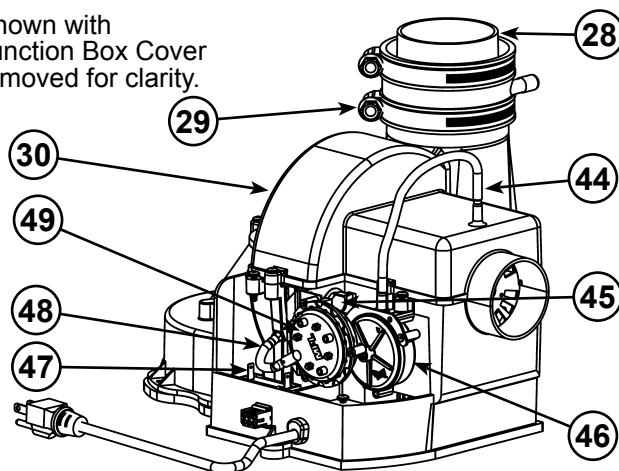

Figure 5
| 8 T&P Valve | 25 Baffle Assembly | 44 Air Tubing (Intake) (see Figure 5) |
| 9 * Discharge Pipe | 26 Hot-Water Outlet Nipple/Anode | 45 Blower High Limit Switch (see Figure 5) |
| 10 **Combo Heating System Return Inlet (Optional) | 27 *Inlet Water Shut-off Valve | 46 Intake Air Pressure Switch (NC) (inside box) (see Figure 5) |
| 11 Gas Control Valve/Thermostat (Honeywell) | 28 ***Rubber Coupling (see Figure 5) | 47 Capacitor (see Figure 5) |
| 12 Gas Valve Electronic Control Module And Cover (Honeywell) | 29 Gear Clamp (see Figure 5) | 48 Air Tubing (Exhaust) (see Figure 5) |
| 13 Drain Valve | 30 ***Blower with Power Cord (see Figure 5) | 49 Exhaust Air Pressure Switch (NO) (inside box) (see Figure 5) |
This device is located on the blower (see Figure 5, item 45) and limits the maximum temperature of the blower. If the blower temperature rises above the temperature setting, the switch opens causing the heater to shut down. The switch will auto reset once the temperature drops sufficiently.
The blower/heater is equipped with two air pressure switches located in the junction box (see Figure 5, item 46 and item 49). These devices are connected in series and monitor the air pressure produced by the blower. In the event that the exhaust venting becomes blocked or sufficiently restricted, the normally open (NO) air pressure switch will shut down the heater. In the event that the intake pipe becomes sufficiently blocked or restricted, the normally closed (NC) air pressure switch will shut down the heater.